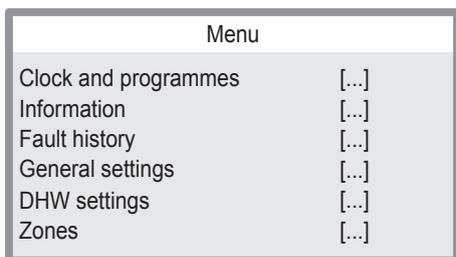

Figure 4.2
- 1 Press key "D" (Figure 4.1) to access the main menu (Figure 4.2).